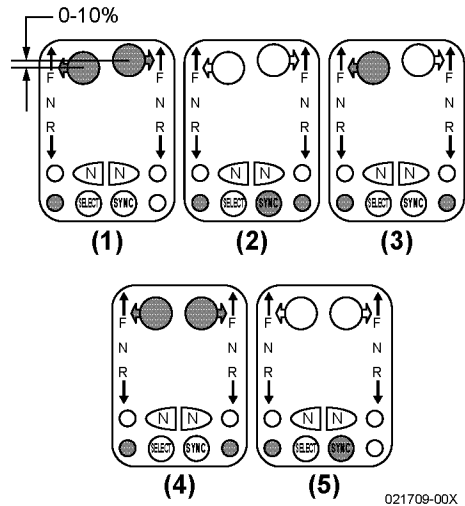

Figure 19
2. Match all engine shift and throttle settings by moving the active port and starboard control head levers to within 5% of each other (**Figure 19, (1)**) and press the SYNC button (**Figure 19, (2)**) on the control head. The sync lamp flashes if the handles are not within 5% of each other (**Figure 19, (3)**). The sync lamp will stop flashing and remain continuously lit (**Figure 19, (4)**) when the levers are moved to within this 5% range. A steady sync lamp confirms that the Cruise Sync is engaged. While the engines are synchronized, all engine speeds are matched any time the control levers are set to within 5% of each other and are above 20% throttle.